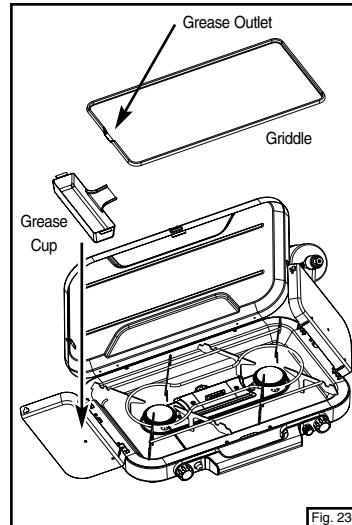

Fig. 23
- Lay the griddle in the center of the pot support with the grease outlet directed into the grease cup (Fig. 23). The tabs on the bottom side of the griddle must engage the pot support.